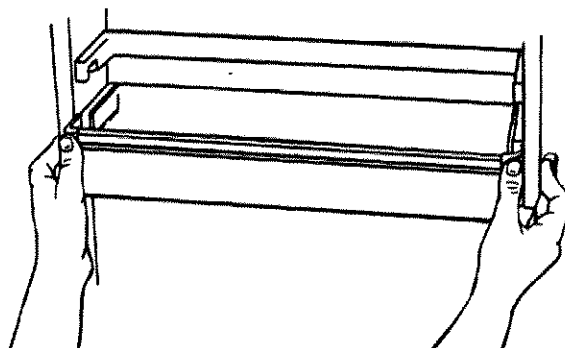

Figure 9
- To reinstall, use one hand at each side of bucket. Slide bucket into grooves on door. Push gently with thumbs until tabs snap and lock into place. See Figure 9.